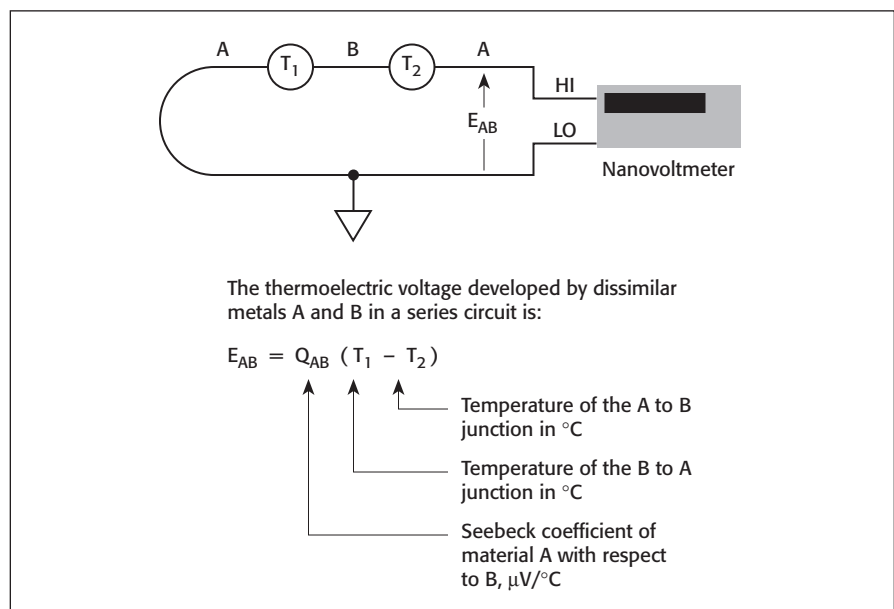

Figure 2. Thermoelectric EMFs in a nanovoltmeter test circuit caused by the Seebeck coefficient of different metallic circuit elements.
**Thermoelectric EMFs.** As noted earlier, steady offsets can be nulled out by shorting an instrument's input leads and using its *ZERO* or *REL* feature. However, thermoelectric EMFs pose additional problems. If the shorted input leads encompass a thermoelectric EMF (*Figure 2*), ambient temperature variations can require frequent zeroing.
Thermoelectric EMFs (voltages) are the most common source of errors in low-voltage measurements. These voltages are generated when different parts of a circuit are at different temperatures, and conductors made of dissimilar metals are joined together (*Figure 2*). This causes such connections to act as
To diagnose this problem, start with a "cold" test instrument that has been turned off overnight. Then locate the parts of the test circuit where there are connections between different metallic conductors. Short the instrument input leads across the portion of the test circuit that encompasses these connections (*Figure 2*). Turn on all the test equipment and observe the voltmeter reading as it and the ambient temperature increases. When the voltmeter reaches thermal equilibrium you should see the reading stabilize.